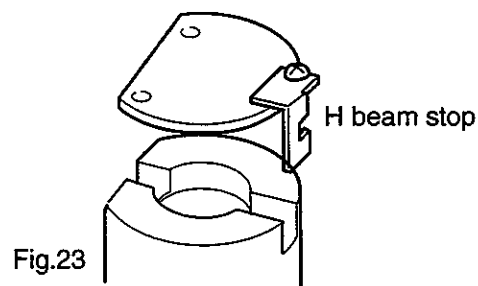

Fig.23
- Step 4. Install the shield plate and the H beam stop (Fig 23).